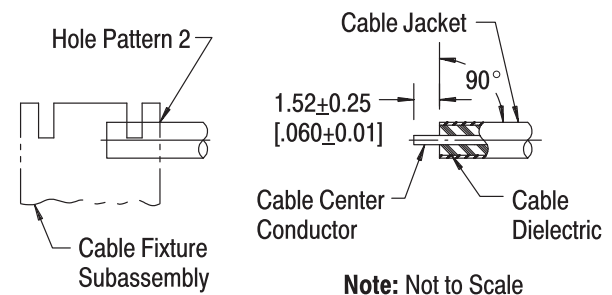
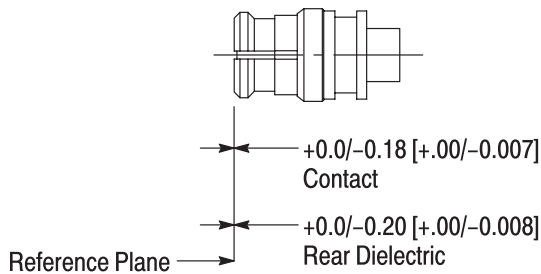

Figure 2
Figure 5
1. Insert the squared cable end into Hole Pattern 2 of the cable fixture subassembly. Refer to Figure 2.
3. Pry the jacket and dielectric from the cable to expose the center conductor. Make sure that the center conductor meets the dimension shown in Figure 2.
- Dimensions in Figure 2 and Figure 5 were corrected
11. Adherence to assembly procedure should yield tolerances shown in Figure 5.